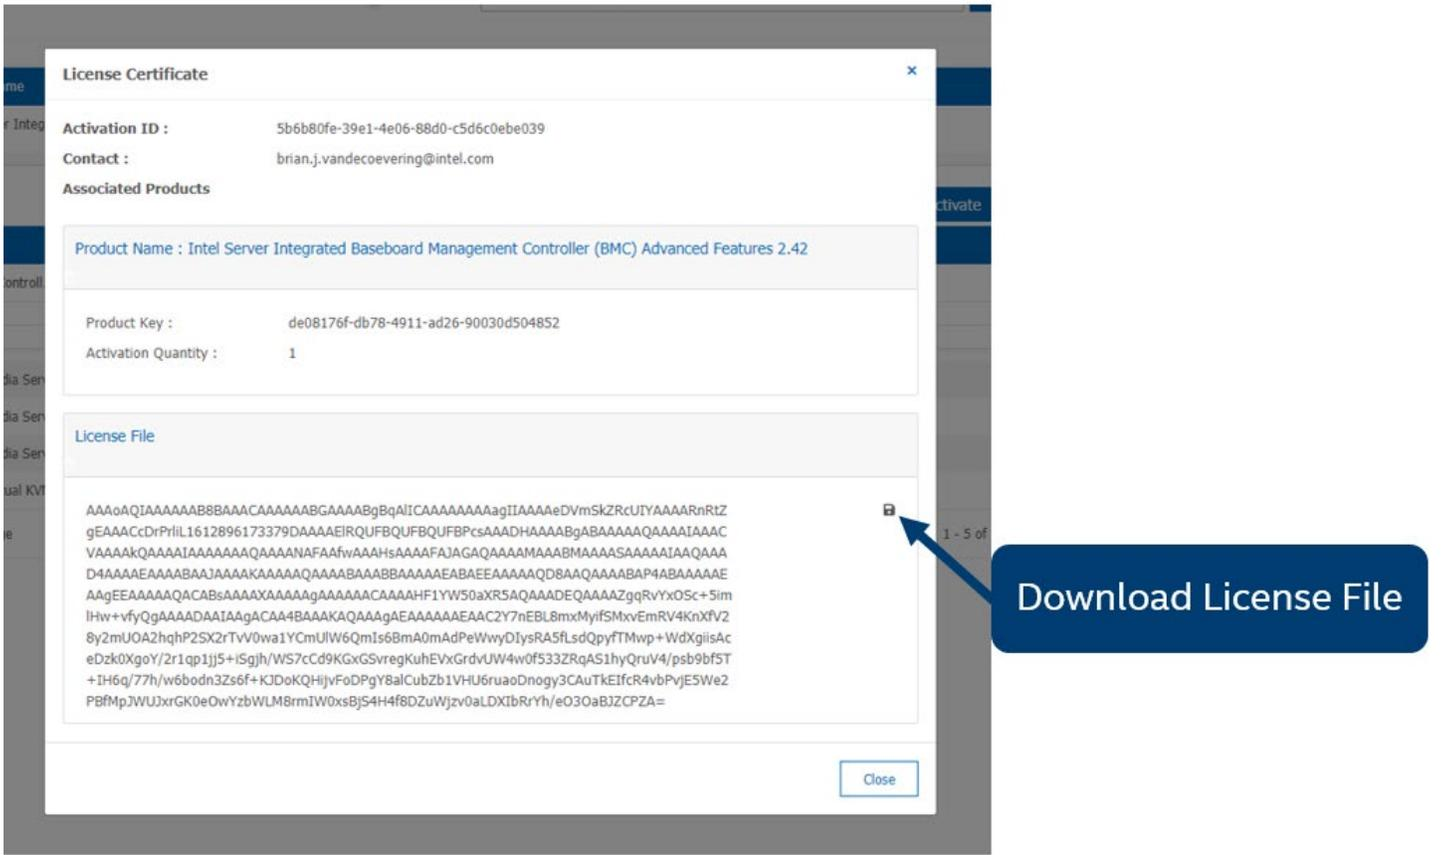

Figure 57. Download Key
7. Download the license associated with the specified product key (see Figure 57)